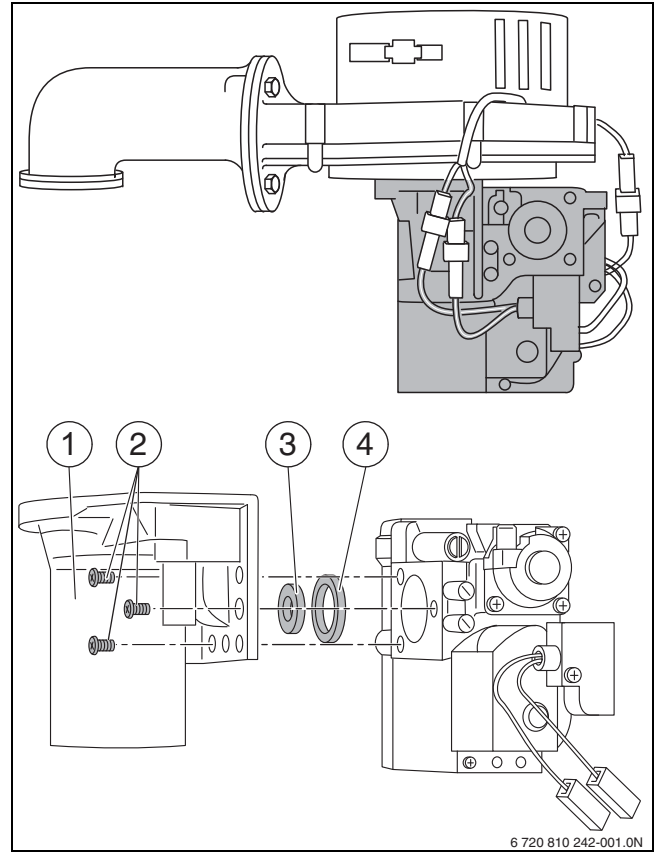

Fig. 2 Replacing the gas nozzle
- ▶ When replacing the gas valve, take out the gas nozzle from the old fitting and place in the new fitting. (→ fig. 2).